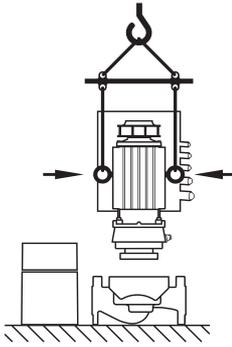

Fig. 9: Transporting the motor
- If necessary, for example during repairs, the transport eyes can be moved from the motor flange to the motor housing (see e.g. Fig. 9). Before installing the transport eyes on the motor housing, unscrew the spacers from the transport eye openings (Fig. 7, Item 20b) (see chapter 10.2.1 "Replacing the mechanical seal" on page 110).
- If the transport eyes will be or have been moved from the motor flange and installed on the motor housing, they are only approved for carrying or transporting the motor impeller unit (Fig. 9) and not for transport of the whole pump or for separation of the motor impeller unit from the pump housing.